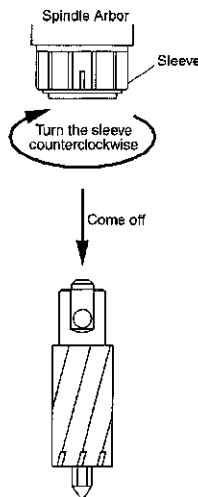

Fig. 15
- (4) To remove the cutter, turn the sleeve counterclockwise. The cutter will come off. (Fig. 15)